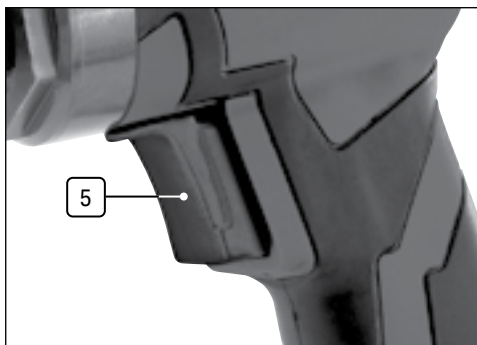

Fig. 5
7.1 Operating the Sander (Figs.5 – 6)